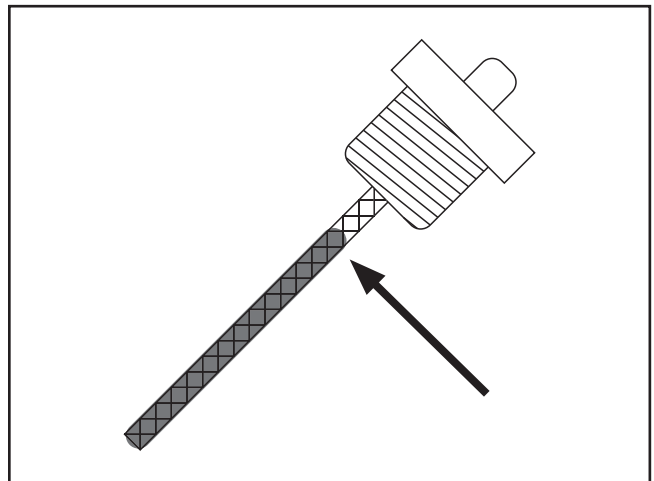

Figure 18. Correct engine oil level on the dipstick.
6. Remove the dipstick/oil cap and fill with SAE 30 motor oil checking the level on the dipstick frequently until full (**Figure 18**). Do not over-fill.